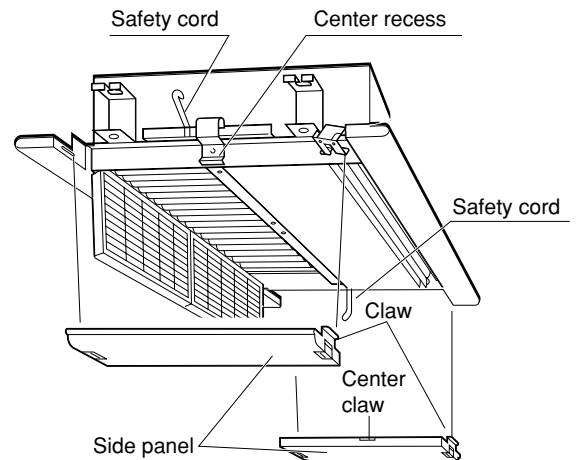

Fig. 9-4
(5) For attaching and removing the side panels, see Fig. 9-4.